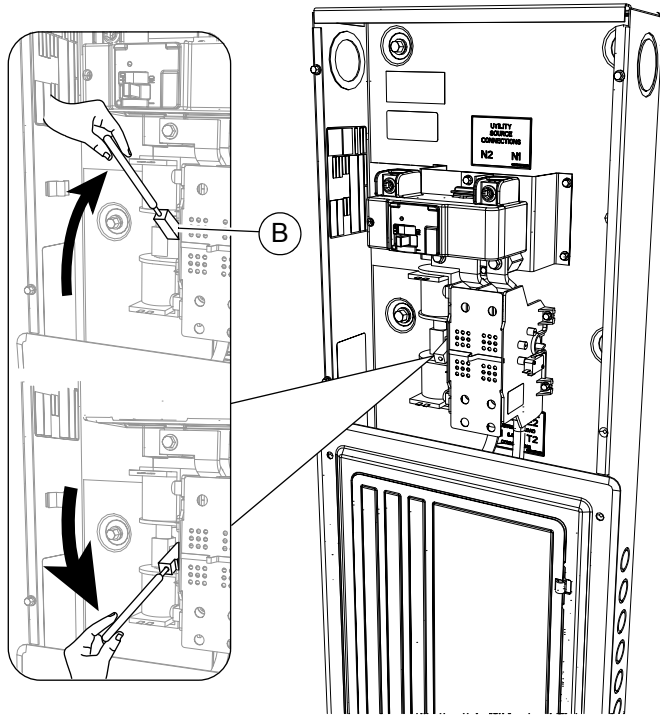

Figure 4-2. Manual Operation
See **Figure 4-2**. A yellow manual handle is shipped with the transfer switch and is located in the bag containing the owner's manual. A retaining clip (A) inside the transfer switch enclosure stores the manual handle when not in use.
3. Note position of transfer mechanism main contacts by observing the movable contact carrier arm as shown in **Figure 4-2**, with the upper cover removed. The top of the movable contact carrier arm is yellow to be easily identified.
See **Figure 4-2**. Before proceeding, verify the position of the switch by observing the position of manual operation handle. If the handle is UP, the contacts are closed in the NORMAL (UTILITY) position, no further action is required. If the handle is DOWN, proceed with Step 1.
See **Figure 4-2**. Before proceeding, verify the position of the switch by observing the position of the manual operation handle. If the handle is DOWN, the contacts are closed in the GENERATOR (STANDBY) position. No further action is required. If the handle is UP, proceed with Step 1.